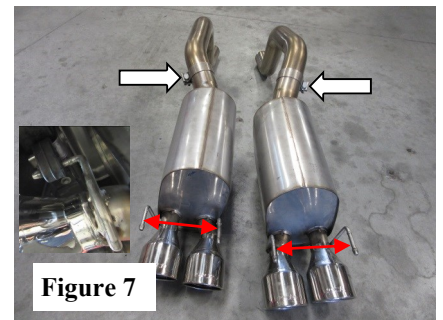

Figure 7
2. Place a clamp over the expanded end of **R/H Over-Axle Pipe** and install to **R/H Rear Muffler Assembly** inlet. (See Fig. 7) **DO NOT TIGHTEN HARDWARE.**